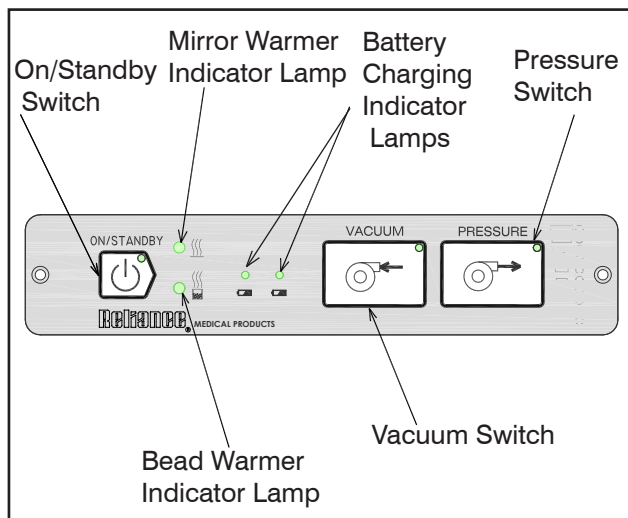
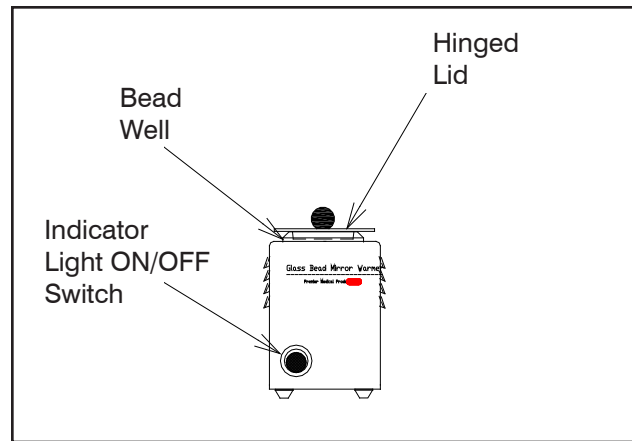

FIGURE 6
FIGURE 10
4.3.1. Push the Membrane Standby Switch to turn the unit on. The LED will change from orange to green when this is done. See Figure 6.
4.6.1.1. To assure that the instruments are charging, two (2) green LEDs on the Membrane Switch will illuminate when the instruments are charging. See Figure 6.
NOTE: On a right handed cabinet, the Bead Warmer is normally located in the top on the left side of unit. It is located on the opposite side on a left handed unit. Refer to Figure 10.
4.10.3. The Bead Warmer is energized by turning on the On/Standby Switch on the Membrane Switch. (Refer to Figure 6), along with the Bead Warmer switch pushed in the "on" position. The indicator light should be on when the Bead Warmer is energized. Refer to Figure 10.
4.11.2. This Fiber Optic Light Source will not operate unless the Membrane On/Standby Switch is “on” (Refer to Figure 6) and the Light Source Power Switch is on. 3 Port Turret will rotate to three different positions.